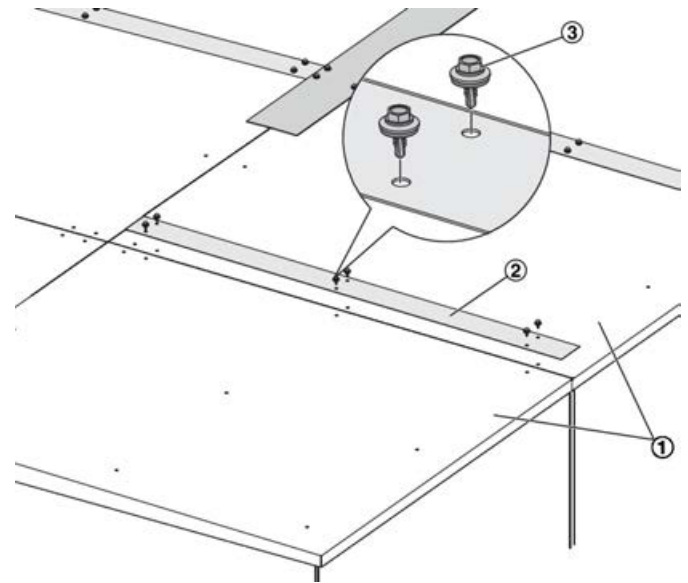

Fig. 21: Joining roof segments
- ① Roof segments
- ② Cover strips
- ③ Self-drilling screws with sealing washers
- ④
- 1 ▶ Connect all joints between the roof segments (Fig. 21 /1) with cover rails (Fig. 21 /3), and fix cover rails with drilling screws (Fig. 21 /4).